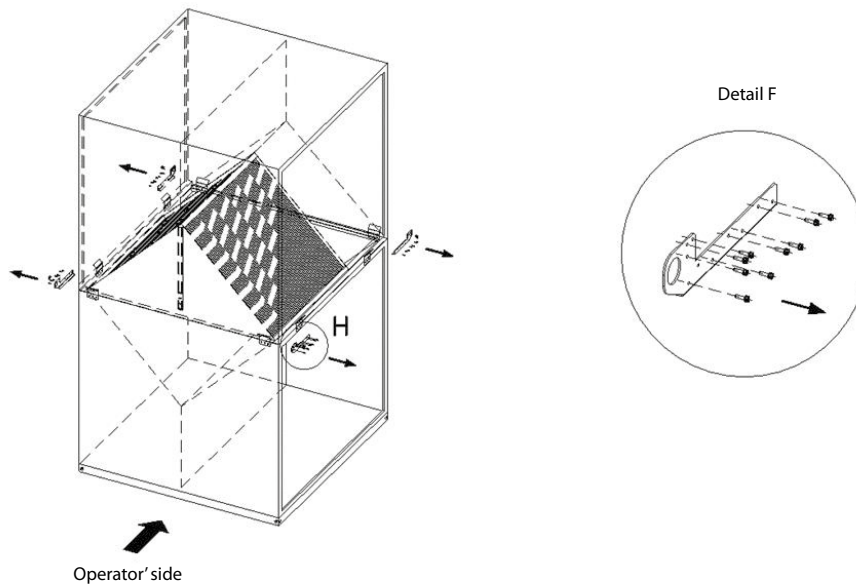

Figure 13 – Removal of suspension eyes from upper part of chamber
- Loosen 9 pieces of M8 bolts on each hinge, see Figure 13, Detail H
- Remove the crane eyes, see Figure 13